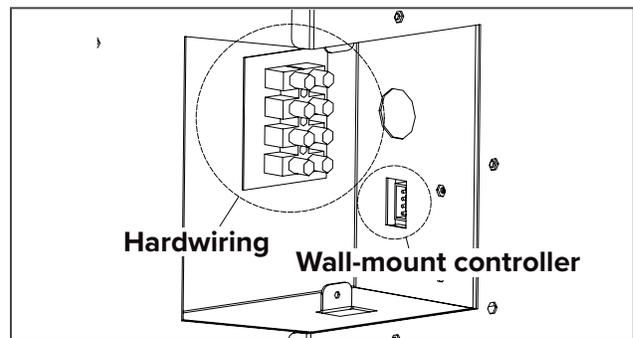

Fig. 2
2. With the appliance in the rough-in framing, insert far enough into the enclosure to locate the supply wires to the terminal block (**Fig.2**).